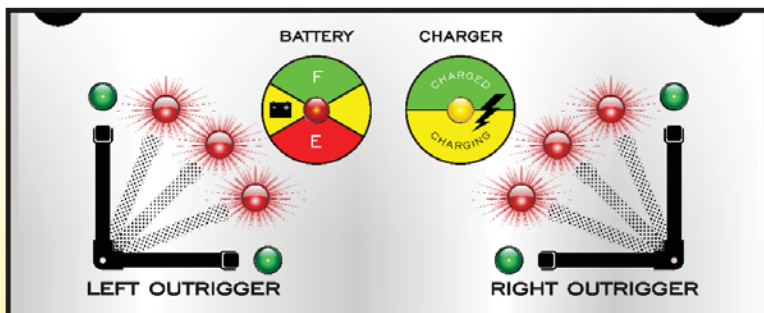

Figure 18 Service Mode LED Indicators
Service Mode/ LED indication – The UniLift operates using a series of switching and coordinating movements. The UniLift control system is programmed to enter Service Mode in the event the UniLift's program sequence has been compromised. In the event the UniLift enters Service Mode, all six (6) red LEDs inside the arc of the right and left banks will illuminated continuously as shown in Figure 18. The UniLift will not operate in Service Mode. Remove the UniLift from service and have a qualified technician troubleshoot and perform service. Contact Bishamon Industries for assistance in troubleshooting and service.
UniLift Control System/Battery Life Lockout – The UniLift control system has lockouts to prevent battery damage in the event that the batteries are very weak and an operator continues to use the UniLift to raise load. After the "Battery" LED on the console glows red for 30 minutes the control system will enter the first of two lockouts. The first lockout will disable the UP button so that the UniLift can only be lowered and not raised. This is so the operator can set the load down and go charge the UniLift. If the UniLift continues to be used and another 30 minutes goes by, the UniLift controls will be completely locked out. The batteries are now completely dead. This second lockout will glow the middle LED in the center of the LED arc on the left and right side of the console (two places) at the same time as shown in figure 18.